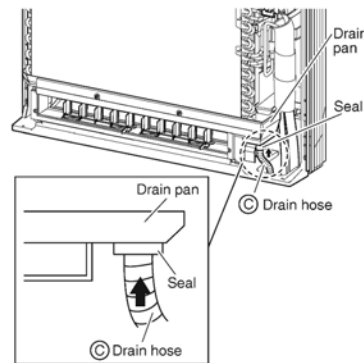

Fig. 2
- Insert the © drain hose into the socket of the drain pan. (See Fig. 2) Fully insert the drain hose until it adheres to a seal of the socket.